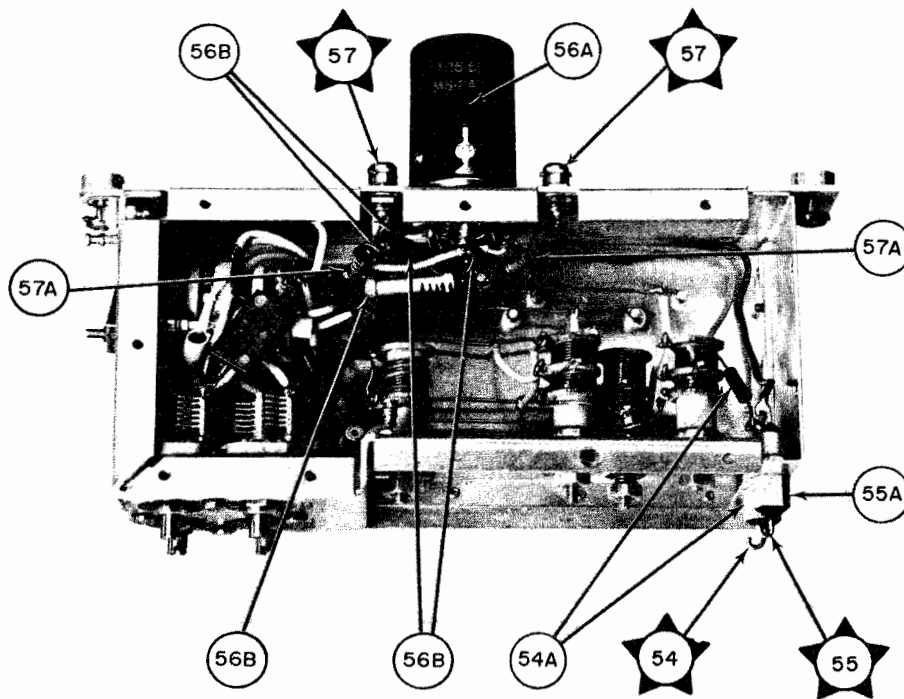

Figure 5-37. High-Frequency Oscillator, Location of Test Points
f. HF OSCILLATOR TROUBLE-SHOOTING CHART.—Table 5-14 is the trouble-shooting chart for the HF oscillator. Perform the steps in the order given and compare the results with those in the NORMAL INDICATION column. If a reading is abnormal, follow the instructions given in the NEXT STEP column. Figure 5-37 shows the location of test points. Voltage and resistance measurements for the pins of tube V301 are as follows: